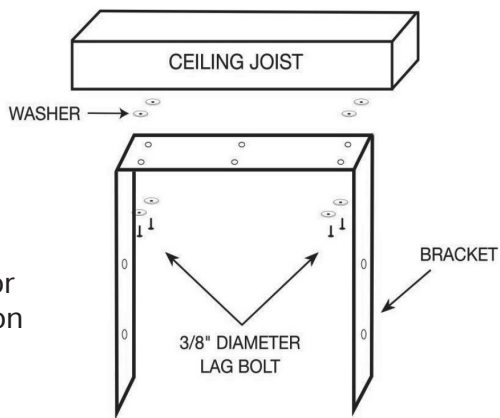

Figure 4:
Refer to **Figure 4**.
3. Place the screw(s) and washers as shown in the **Figure 4**.